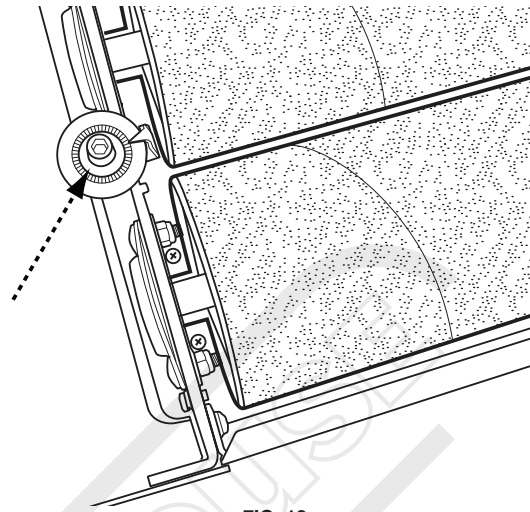

FIG. 13
2. Locate the drum height adjustment screw as shown in Fig. 13.